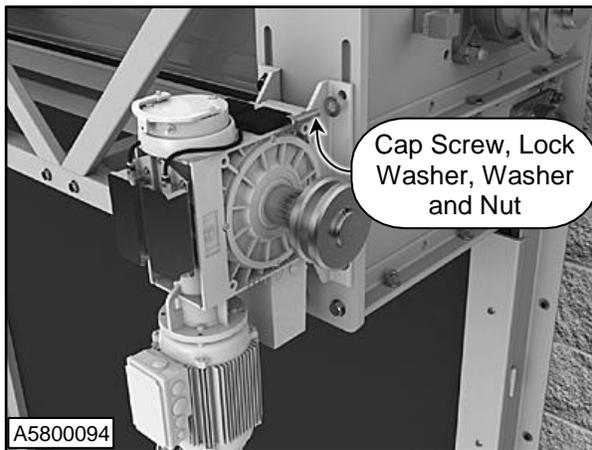

Figure 32
4. Loosen the four pieces of hardware that mount the motor/gearbox to the head assembly. (See Figure 32)